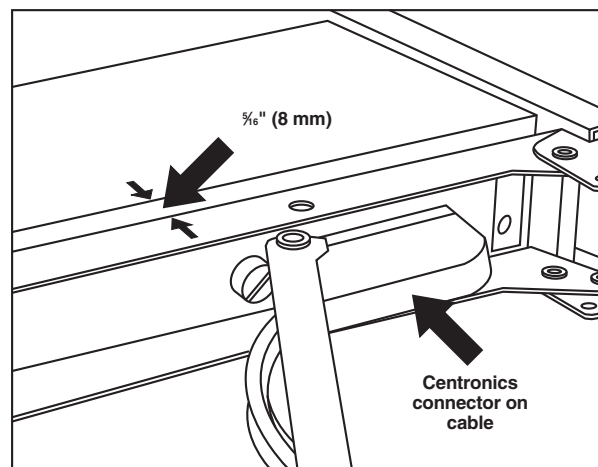

Figure 3-8. Centronics connectors.
10. Make sure the Centronics connectors on the KVM module and attached cable are firmly mated. See Figure 3-8.